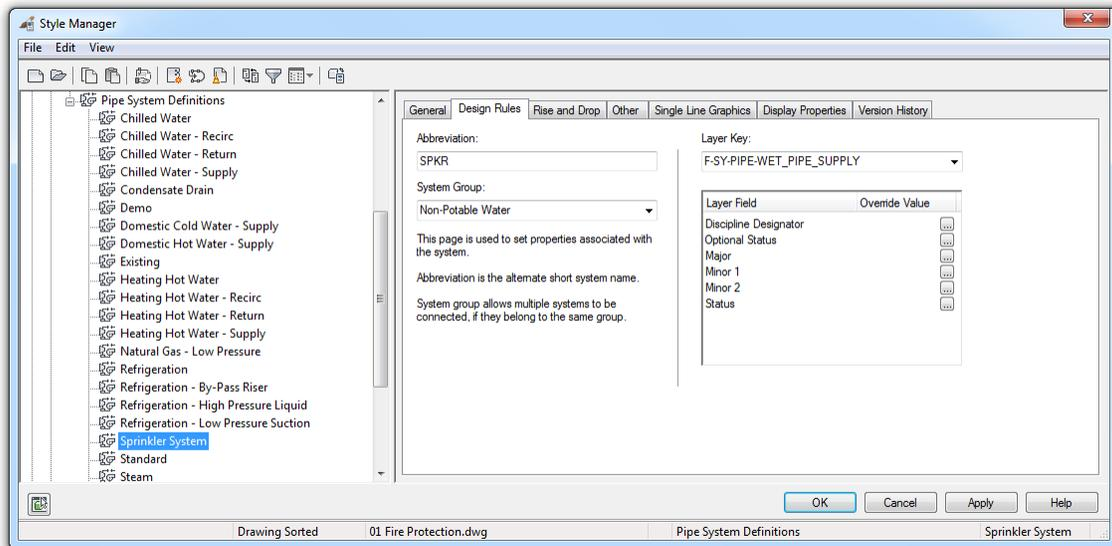

Figure 6.22 *Design Rules allow us to configure the Abbreviation, System Group and Layer settings*
8. From the Layer Key drop-down choose **F-SY-PIPE-WET_PIPE_SUPPLY** (see Figure 6.22).